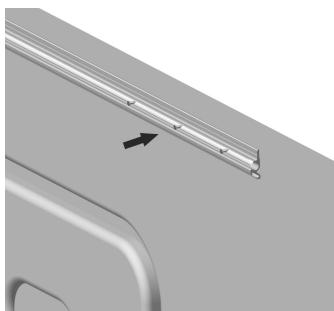
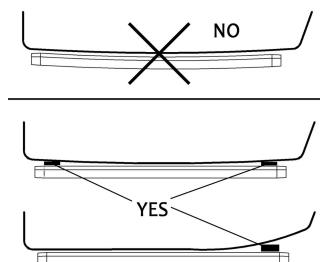

Figure C4
Figure C5
3.1 Take out the fabric rail and fix it on the outside of the vehicle body with screws B (Figure C4). The fabric rail should be installed horizontally, and if not, it should be leveled (the cushion block should be provided) (Figure C5). If the vehicle body is pre-installed with a fabric insertion slot, this step can be omitted and the fabric rail not need to be used.